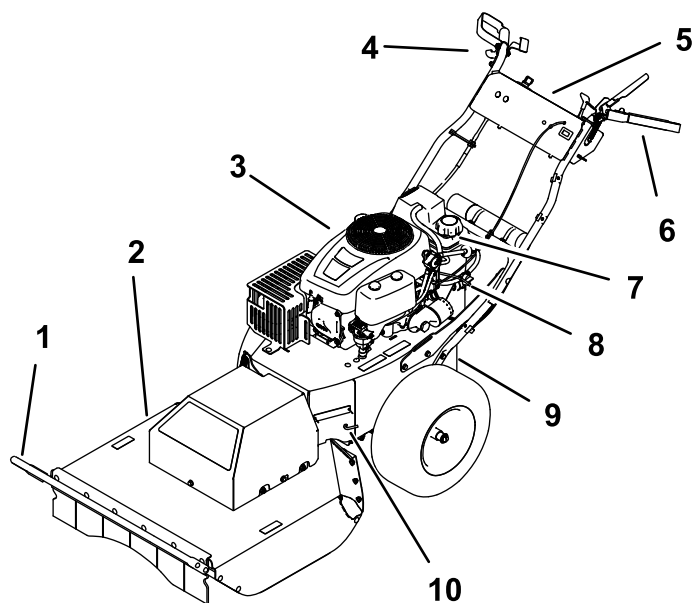
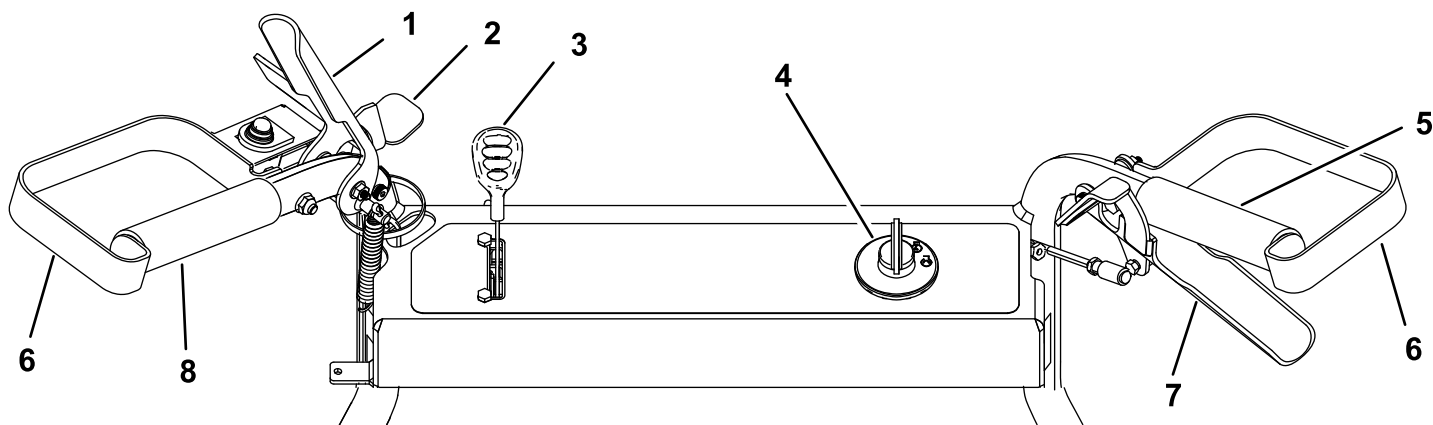

Figure 7
Figure 8
Become familiar with all the controls (Figure 7 and Figure 8) before you start the engine and operate the machine.
3. Clean around the fuel-tank cap and remove it (Figure 7).